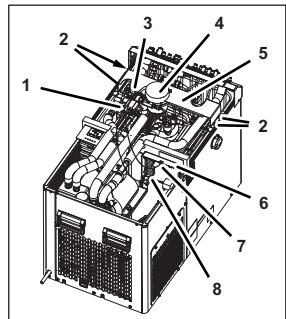
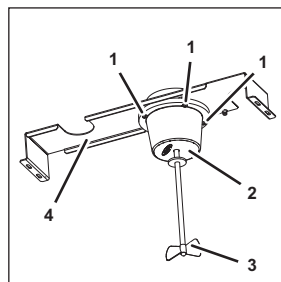

Figure 41
Figure 42
1. Disconnect the plugs (Figure 41/7 and 8) of the stirrer motor (Figure 41/4) from control system 1 (Figure 41/7).
2. Remove the fastening bolt (Figure 41/3) from the solenoid valve holder.
3. Remove the fastening bolts (Figure 41/2) from the stirrer motor mount (Figure 41/5).
4. Lift the stirrer motor mount (Figure 41/5) with stirrer motor (Figure 41/4) out of the unit.
5. Remove the stirrer blade (Figure 42/3) from the stirrer motor (Figure 42/2).
6. Remove the fastening bolt (Figure 42/1) from the stirrer motor (Figure 42/2).
7. Attach the new stirrer motor (Figure 42/2) to the stirrer motor mount (Figure 42/3) using the fastening bolts (Figure 42/1).
8. Attach the stirrer blade (Figure 42/3) to the new stirrer motor (Figure 42/2).
- Secure the stirrer blade (Figure 42/3) by applying Loctite.
10. Attach the stirrer motor mount (Figure 42/3) using the fastening bolts (Figure 41/1).
11. Attach the solenoid valve holder to the stirrer motor mount (Figure 42/3) using the fastening bolt (Figure 41/3).
12. Connect the plugs (Figure 41/7 and 8) of the stirrer motor (Figure 41/4) to control system 1 (Figure 41/6).